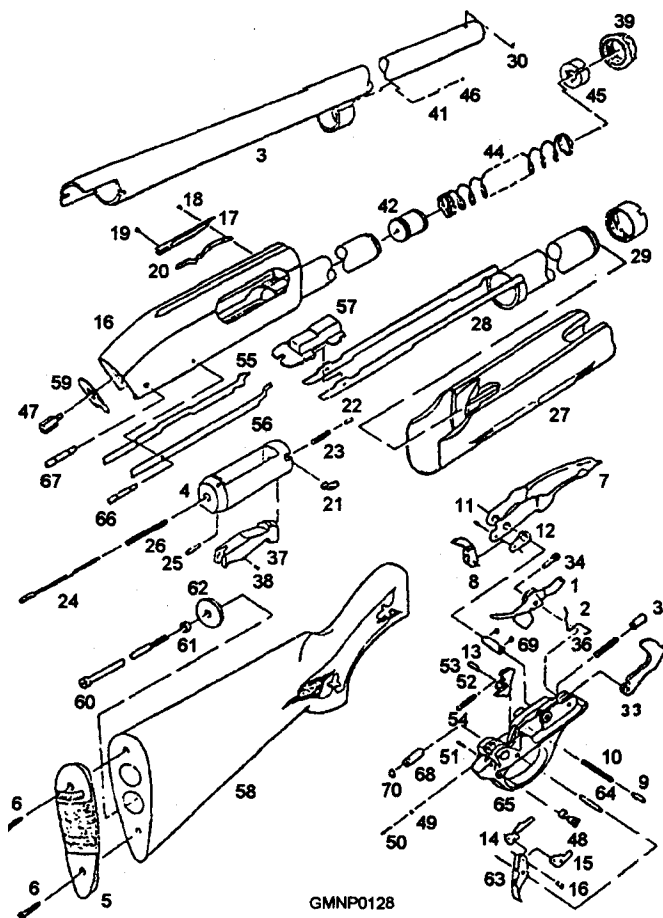

Figure 3-54A.—M870 individual parts breakdown.
To understand an operating cycle of the M870 shotgun fully, you must know the names and general functions of the parts of the gun. To become more familiar with the parts during our discussion of an operating cycle, refer to figure 3-54A, the individual parts breakdown, and figure 3-54B, the accompanying parts list.
**TRIGGER PLATE ASSEMBLY.**— With the safety pushed to the SAFE position, cock the action. Tap out the front and rear trigger plate pins (fig. 3-54A). Lift the rear of the trigger plate from the receiver, then slide it rearward to remove it from the gun. The trigger assembly will be cleaned as a unit by brushing with a solvent. Wipe the trigger assembly dry and re-oil it very sparingly. When replacing the plate assembly in the gun, make sure the action bar lock enters the receiver easily and operates in position.